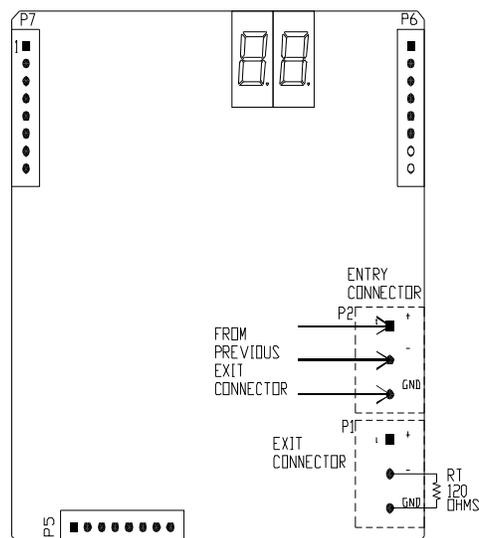

figure 4.24 Final SBC in chain
4. The final SBC in the chain must be terminated with a 120 ohm resistor as shown in figure 4.24.